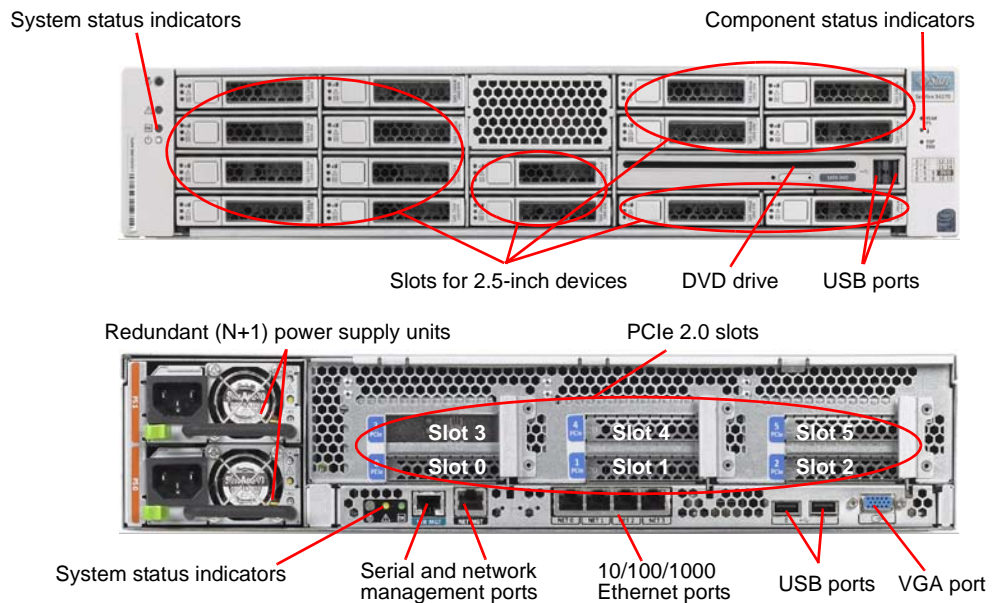
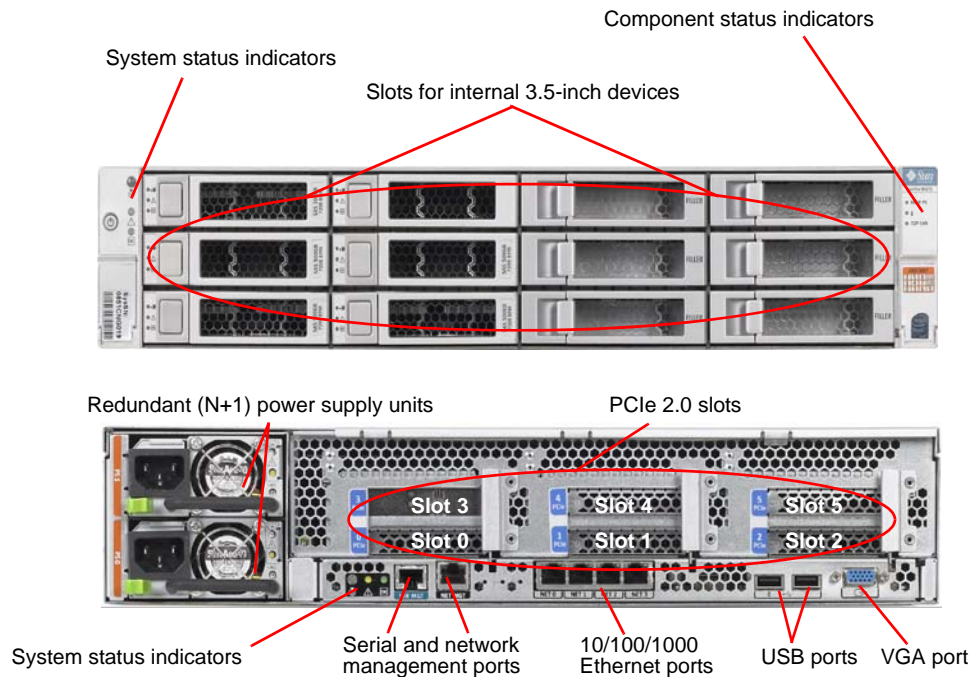
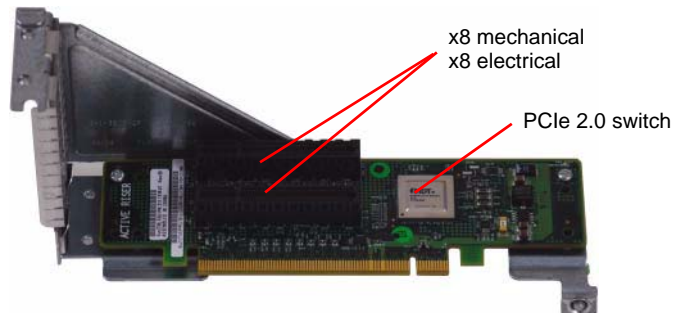

Figure 7. Sun Fire X4270 server, front and rear panels
Figure 9. Sun Fire X4275 server, front and rear panels
Figure 11. PCIe 2.0 active riser for 2U Sun Fire X4270 and X4275 servers (Slots 1 & 4, and 2 & 5)
Figure 7 illustrates the front and rear panels of the Sun Fire X4270 server.
Figure 9 illustrates the front and rear panels of the Sun Fire X4275 server
The six slots on Sun Fire X4270 and X4275 servers are numbered left to right across the bottom (Slots 0 to 2) and then left to right across the top of the rear panel (Slots 3 to 5) — refer back to Figure 7 and Figure 9, which show the rear panels of the Sun Fire X4270 and X4275 servers, respectively. Both 2U servers incorporate one passive riser (for Slots 0 and 3) and two active risers (for Slots 1 and 4, and Slots 2 and 5, Figure 11). Each 2U riser supports two PCIe 2.0 slots for I/O expandability and is keyed to correctly insert into the motherboard. Each 2U riser provides two 8-lane (electrical and mechanical) slots, for a total of six x8 PCIe 2.0 slots in each 2U server.
The passive riser splits 16 PCIe 2.0 lanes from the IOH into two sets of 8 lanes, one set for each riser slot. The active riser (Figure 11) uses an IDT PES24T6G2 PCIe 2.0 switch to expand eight PCIe lanes from the IOH into two x8 slots. The PES24T6G2 switch features six ports and twenty-four 5 Gbps PCIe 2.0 lanes supporting 5 Gbps, 2.5 Gbps, and mixed 5 Gbps/2.5Gbps modes. As implemented in these servers, the switch provides high-performance I/O connectivity and switching functions between the riser's x8 PCIe 2.0 upstream port and the two x8 downstream ports. It supports eight Traffic Classes (TCs) and one Virtual Channel (VC) with sophisticated resource management algorithms (including round robin, weighted round-robin, and strict priority schemes). The switch helps to support PCIe applications that demand high throughput and low latency, such as high throughput 10 Gigabit I/O cards, SATA controllers, and Fibre Channel HBAs. However, it is not recommended to insert more than one high bandwidth and latency-